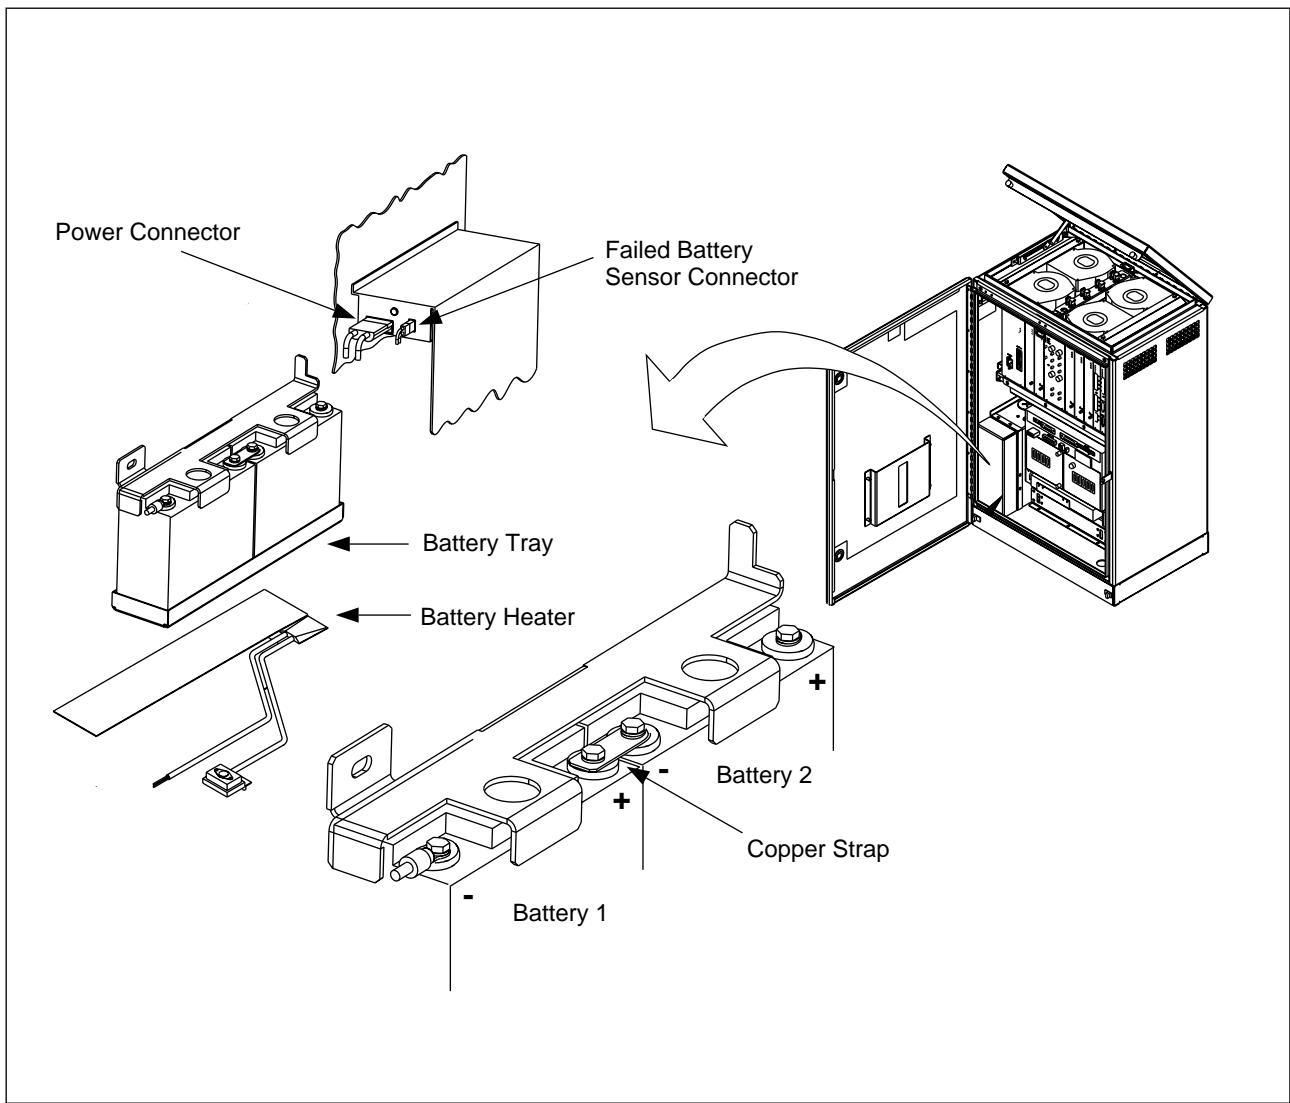

Figure 4-13. Battery Installation in Cabinet
5. Install the batteries into the battery tray as illustrated in Figure 4-13 on page 4-28. Attach the hold-down bracket to the battery tray.
6. Connect the center terminals (positive terminal of battery one to negative terminal of battery two) with the copper strap. Do not tighten the negative terminal of battery two at this time. See Figure 4-13 on page 4-28
- Connect the 8-gauge red cable to the positive terminal (+) of battery two. See Figure 4-13 on page 4-28.